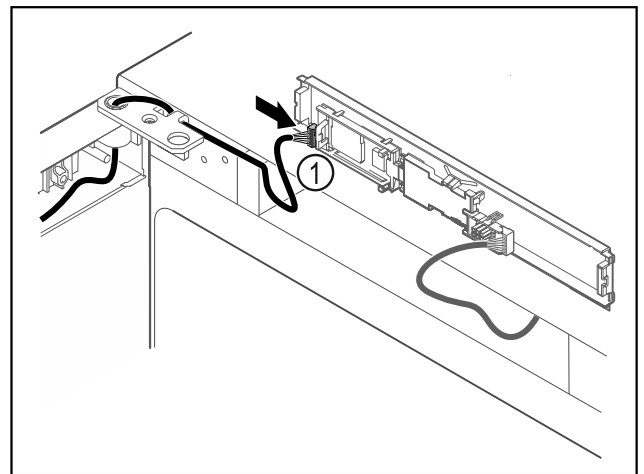

Fig. 67
- ▶ Connect the plug Fig. 67 (1) to the circuit board.